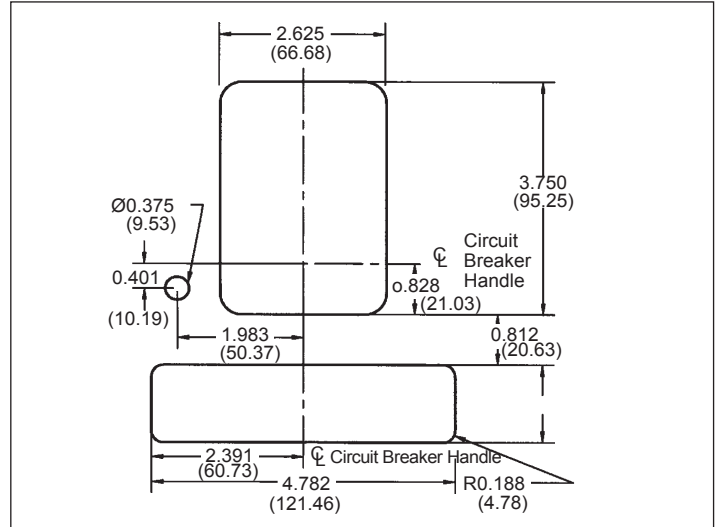
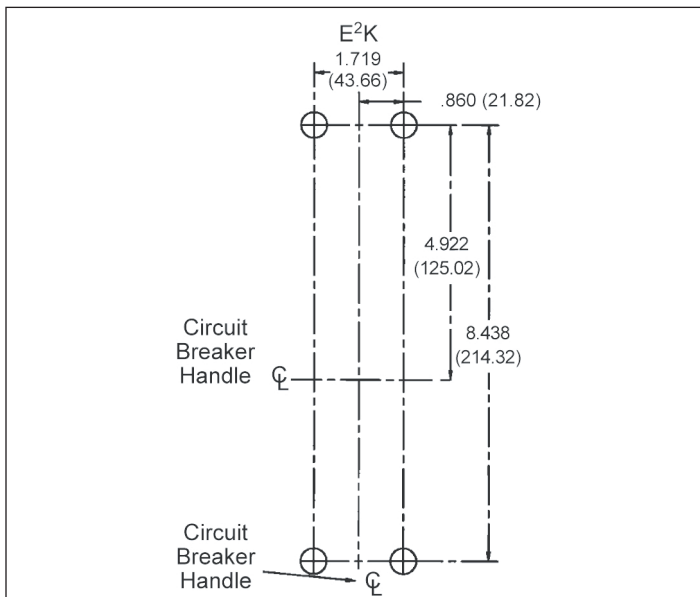

Figure 6. Escutcheon Dimensions.
Figure 5. Mounting Bolt Drilling Plans.
- a. For individual surface mounting, drill mounting panel using the drilling plan shown in Figure 5. For panelboard mounting, only load end support mounting holes are required. For deadfront cover applications, cut out cover to correct escutcheon dimensions (see Figure 6)